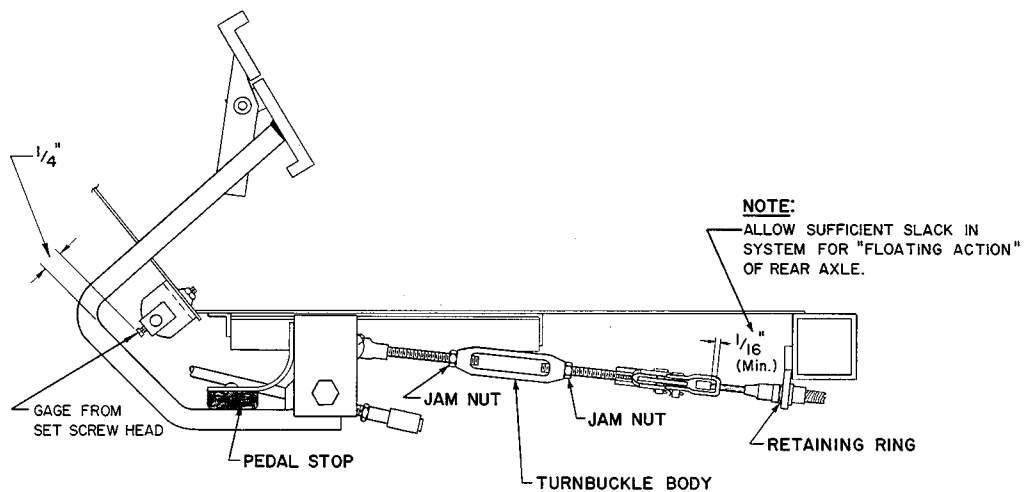

FIG. 3C
1. Adjust the brake pedal stop to allow the pedal maximum travel in the up position without hitting the hill brake release cam. (See Fig. 3C) Adjust by bending stop bracket.
5. **IMPORTANT!** After adjusting the turnbuckle to obtain proper hill brake tension, release the pedal and check for 1/16" inch minimum slack between cable head and inside of clevis (both cables). This is necessary to allow for "floating action" of rear axle. (See Fig. 3C)
**Note:** If further adjustment is required to obtain the 1/16" minimum, the pedal stop must be adjusted upward to allow the pedal more travel in the up (released) direction. (See Fig. 3C)